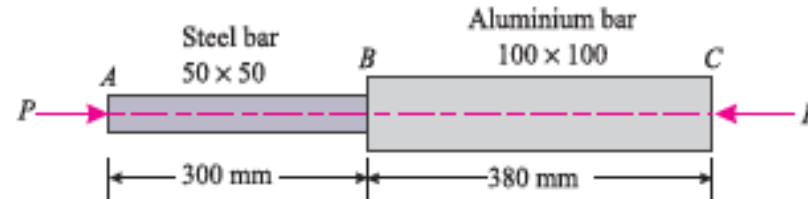

Fig. 3.3
**EXAMPLE 3.2.** A member formed by connecting a steel bar to an aluminium bar is shown in Fig. 3.3.